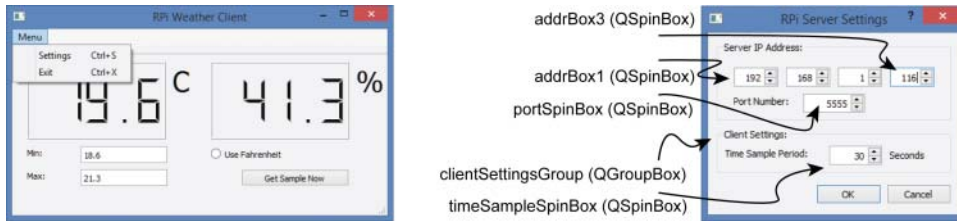

Figure 14-14: The menu and the Server Settings dialog
1. A new dialog window is added to the application that can be used to enter the server IP address, the service port number, and the reading refresh frequency. This dialog is illustrated in Figure 14-14.